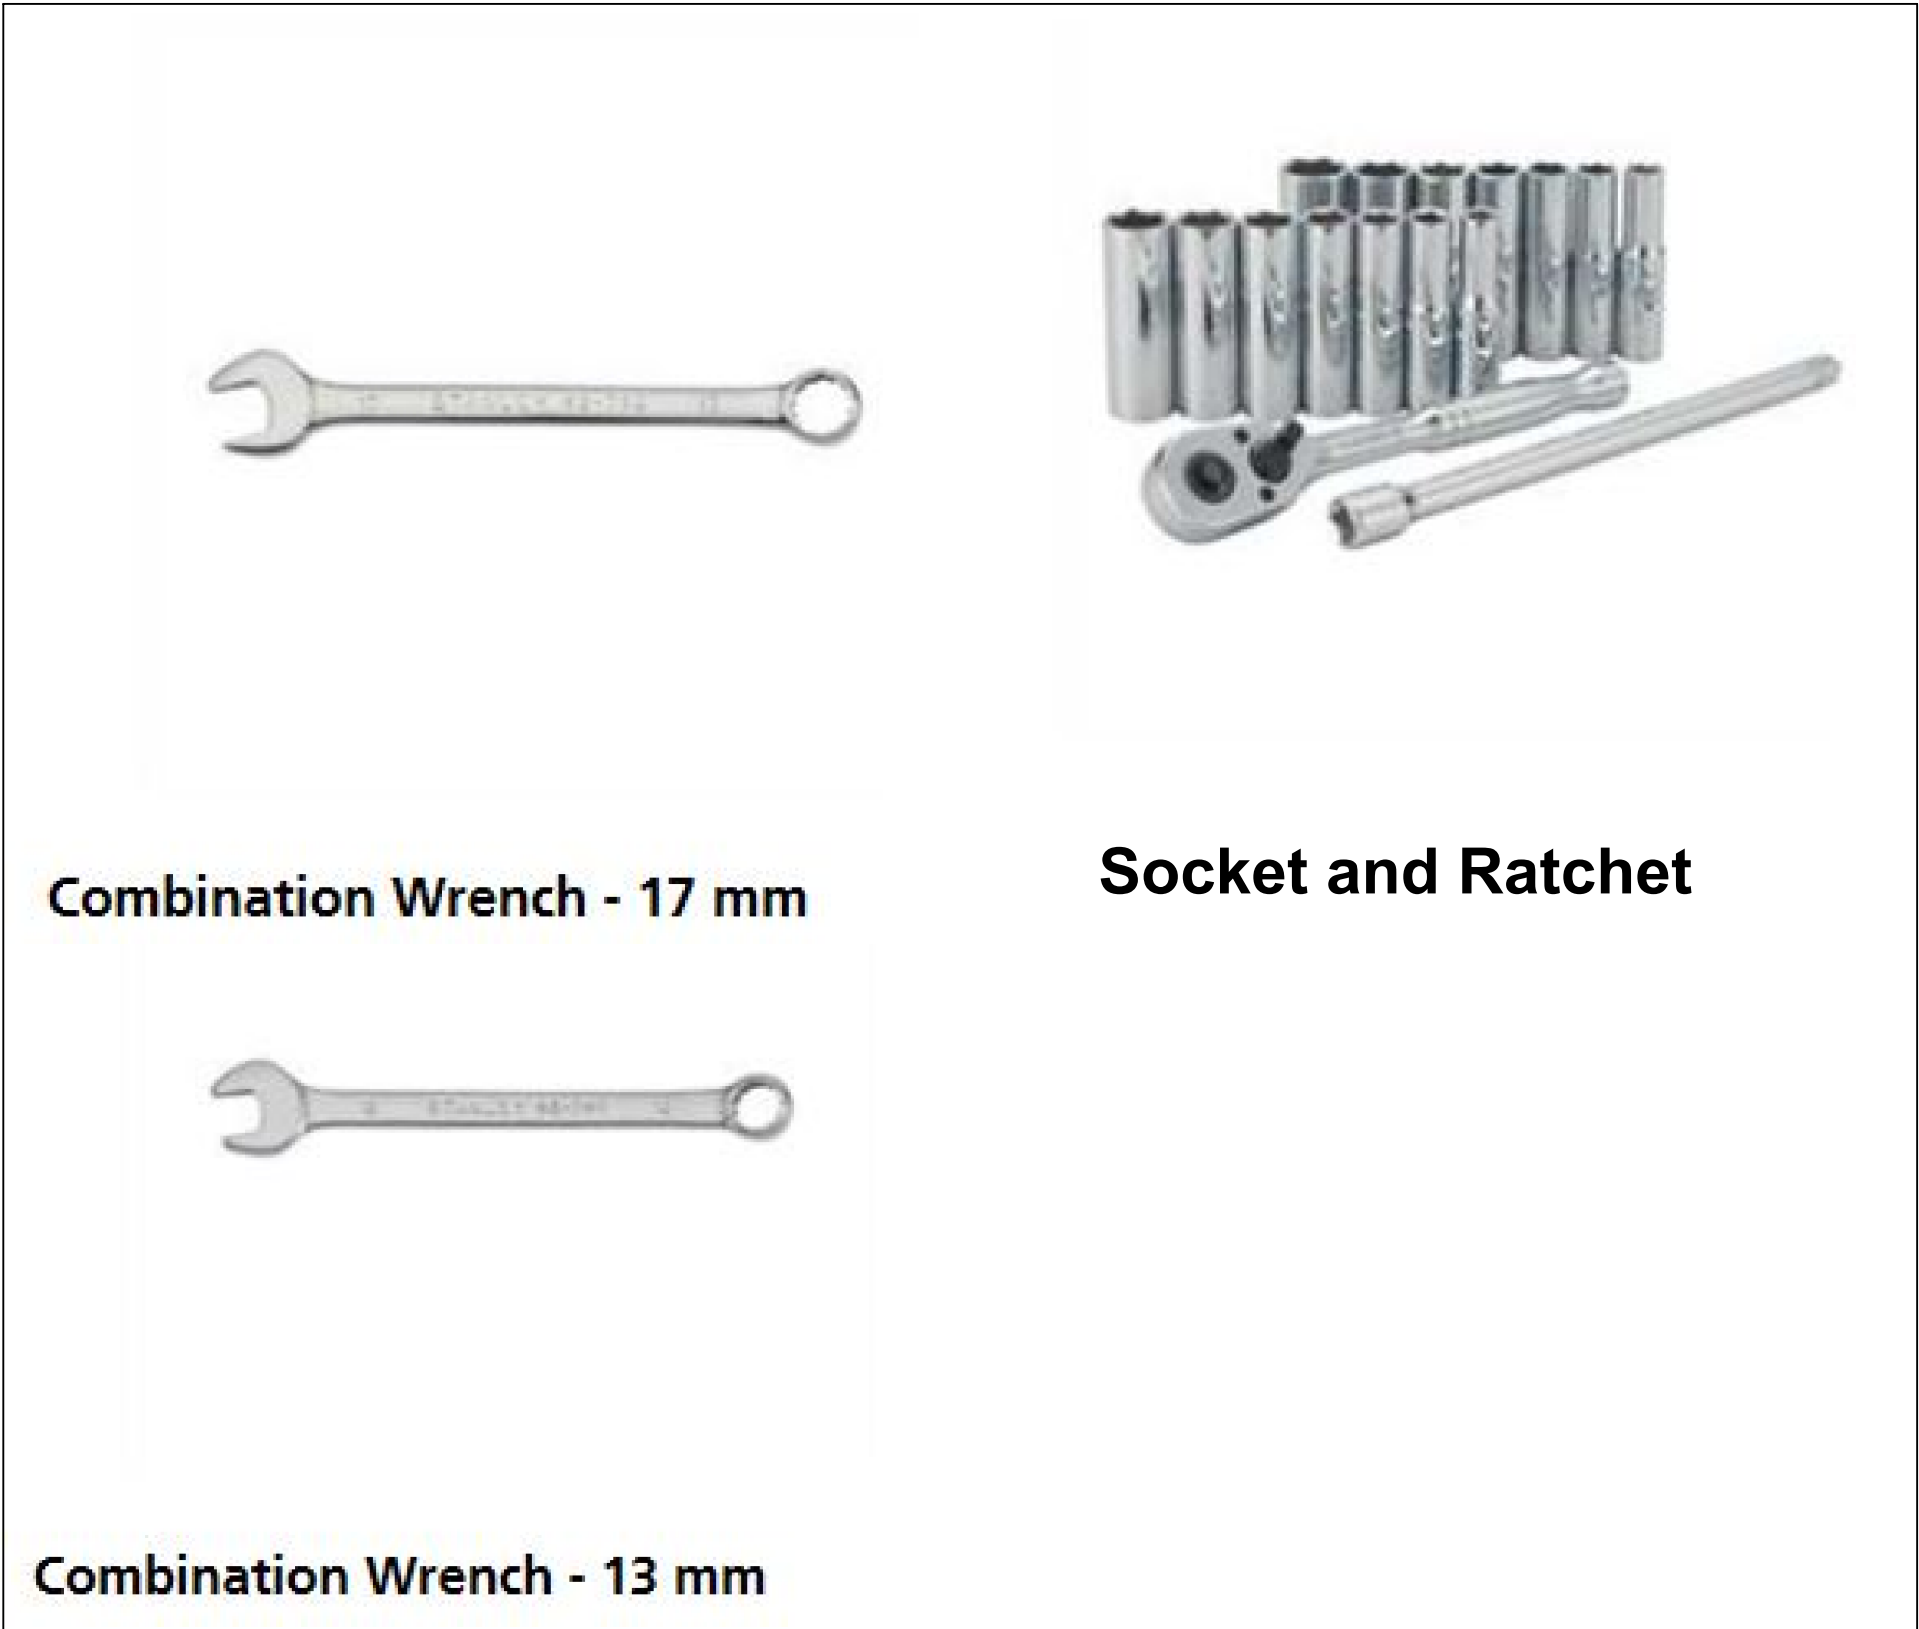

Figure 7. Recommended tool list
- 5. After angle of degree is achieved completely tighten all hardware, being careful to not overtighten. Proper tools may be required. See Figure 7 for reference.